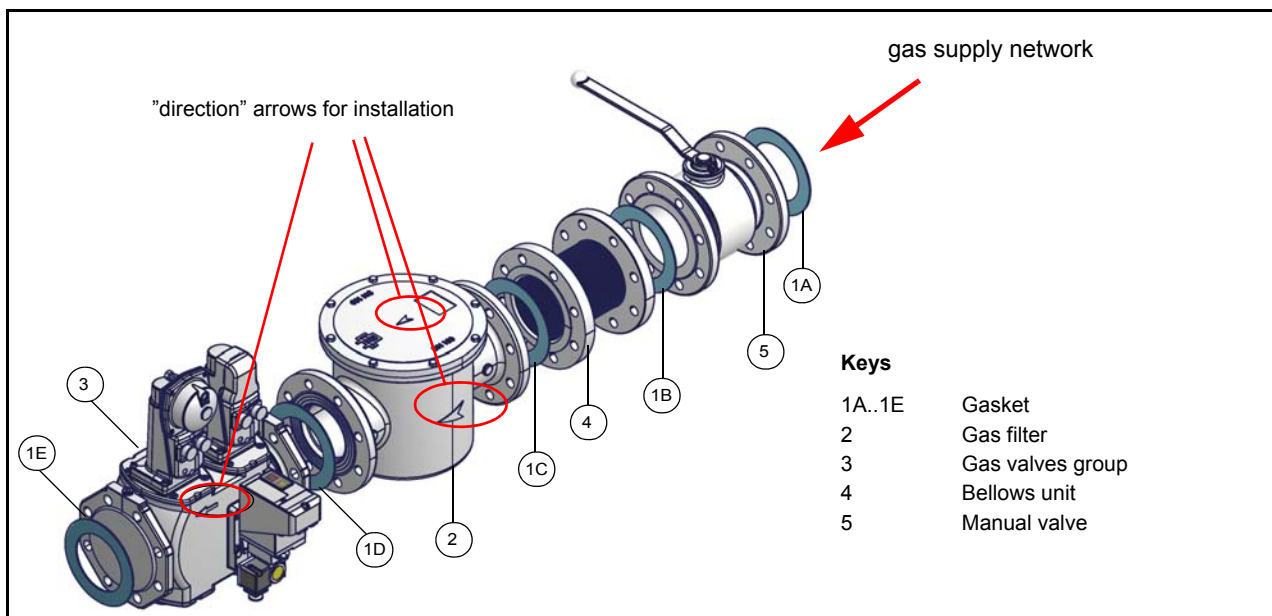

Fig. 3 - Example of gas train
- Cast-iron boilers, three pass flue boilers (with the first pass in the rear part): the blast tube must protrude about 150÷200 mm into the combustion chamber (Fig. 3). The length of the blast tubes does not always allow this requirement to be met, and thus it may be necessary to use a suitably-sized spacer to move the burner backwards (Fig. 4).
- 1-b) in case of flanged joints: place a gasket (no. 1A..1E - Fig. 3) between the elements
**ATTENTION:** once the gas train is mounted according to the diagram on Fig. 3, the gas proving test must be performed, according to the procedure set by the laws in force.